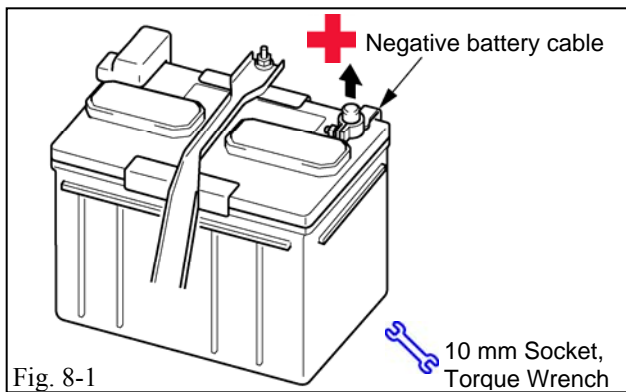

Fig. 8-1
- (a) Reconnected the vehicle's negative battery cable at original factory position. (Fig. 8-1)
- (1) Tighten the nut to 36 lbf in. (4.1 N-m)
- ⊕ (2) Do not touch the positive terminal with any tool when replacing the cable.